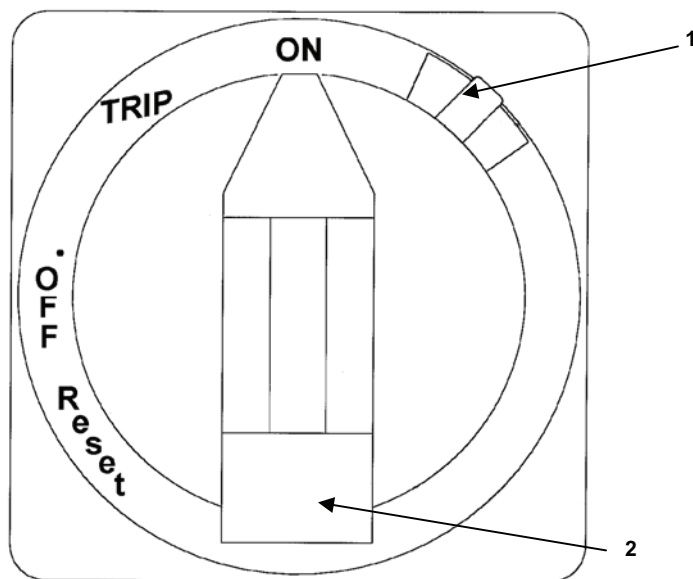

Figure 2. Circuit Breaker.
3. Make sure to orient the sample valve to align with piping. Tighten securely. See Figure 2.
8. Operate RO element module for (15) minutes to flush the system.
1. Open the control panel by turning the switch (Figure 2, Item 2) to OFF position.
3. Hold the panel closed with one hand to allow the switch (Figure 2, Item 2) to rotate. Keep the hand on the panel.
4. Turn the safety tab (Figure 2, Item 1) clockwise with the other hand. Do not let go of the safety tab (Figure 2, Item 1).
5. Turn the switch (Figure 2, Item 2) counter-clockwise. The safety tab (Figure 2, Item 1) and the switch (Figure 2, Item 2) should be squeezed together.